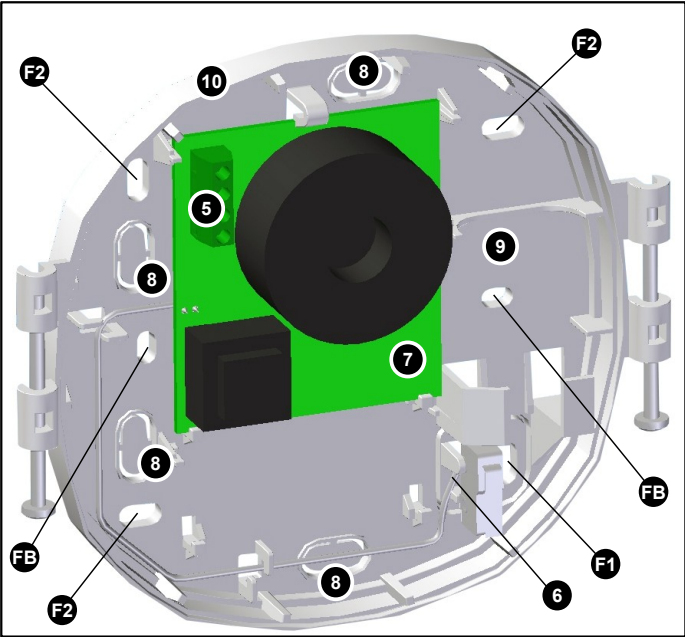

Fig. 2 - Particolare del fondo / Detail of the backplate
- Place the backplate of the siren on the wall and mark the reference holes: mark the **F1** hole (lower right to activate the wall tamper function) and another by choosing one of the **F2** holes (see fig. 2).
- The two central **FB** holes (fig. 2) are set-up for the siren to be installed on a recessed electrical box; in this case, mark the **F1** hole (lower right to activate the wall tamper function) and another by choosing one of the **FB** holes.
- Pass the connection cable through the holes (ref. 8, pre-cut) on the backplate (fig. 2).
- Only mod. 8030-ISS003:** place the backup battery in its housing (ref. 9, fig. 2) and connect as described in par. 2.4.
- Once completed: close the lid, place the previously removed screw (3) in its housing and tighten it until it is securely fastened.
AS	Anti-tamper. The AS terminal blocks are interconnected when micro switch 6 (fig. 2) is closed; and disconnected when micro switch 6 is open.
2. Rimuovere il ponticello **JP2** della batteria (rif. **9**, fig. 2) e rimuoverla dal suo alloggiamento.
2. Remove the jumper **JP2** of the battery (ref. **9**, fig. 2) and remove it from its housing.